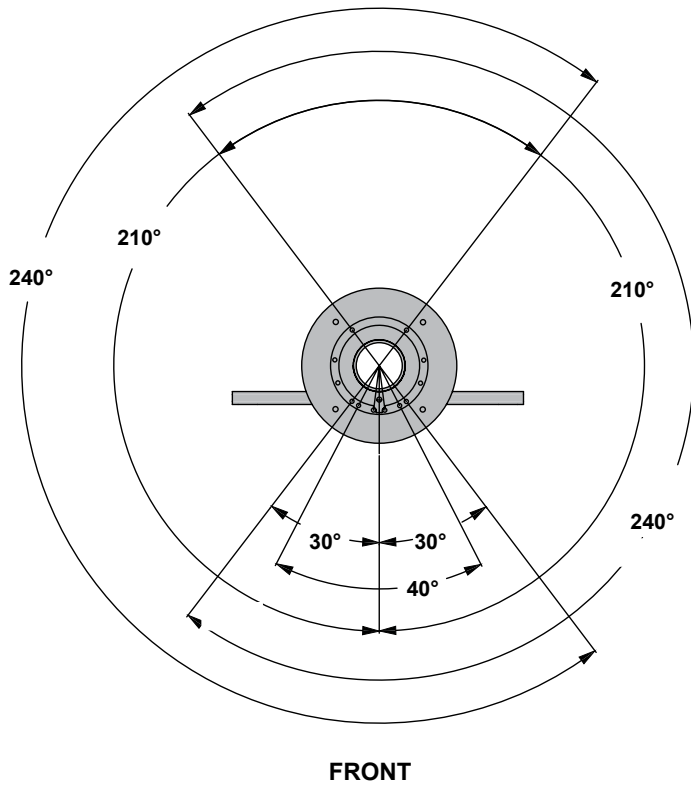

fig. 4.1
- 4** Refer to fig. 4.1 and 4.2, select the desired swivel degree. Using a 3/32" allen wrench, fasten two set screws (**J**) where indicated below to the outside of desired angle in steel base (**C**).